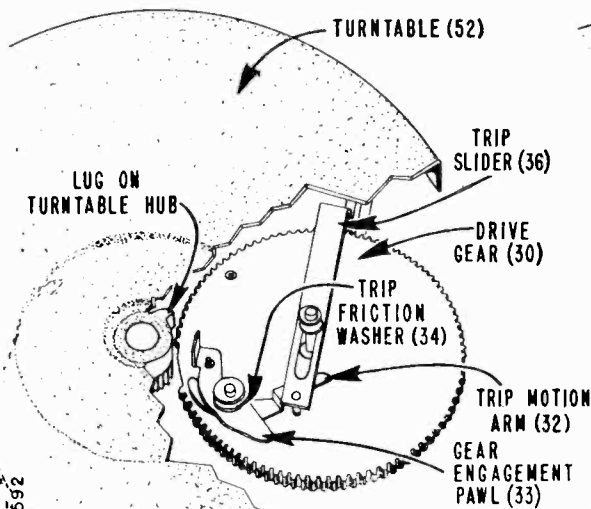

Figure 2A. Drive Gear Position Out of Change Cycle.
This changer employs a velocity trip, which consists primarily of two parts: the trip motion arm (32), and the gear engagement pawl (33). These parts are mounted near the "dead spot" on the drive gear. See Figure 2A.
This record changer uses a velocity type trip, which depends upon a rapid movement of the tone arm toward the centerpost in any area between  $2\frac{7}{8}$ " to  $7\frac{7}{8}$ " from the center of the record. **This trip requires no adjustment.** However, in order for the changer to trip properly, there must be sufficient friction between the trip motion arm (32) and the gear engagement pawl (33). If the friction is lost, a small amount of lubricant (such as lubriplate #110) should be placed between these parts. If this does not help, it may be necessary to replace the trip friction washer (34). See Figure 2A.